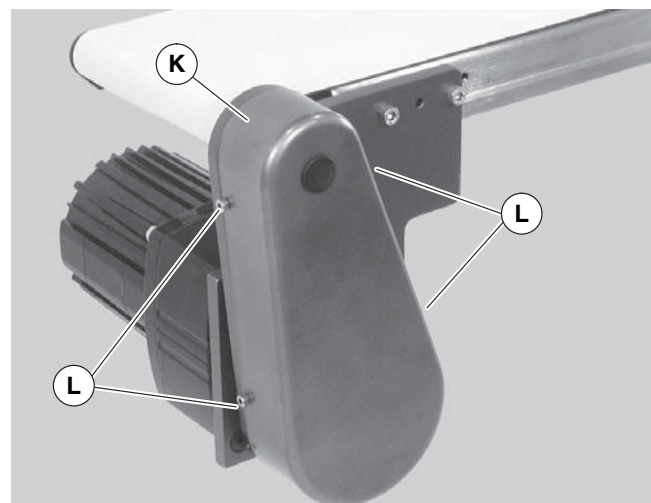

Figure 14
9. Install cover (Figure 14, item K) with four (4) screws (L). Tighten to 35 in-lb (4 Nm).
1. Remove four (4) screws (Figure 14, item L) and remove cover (K).
4. Install cover (Figure 14, item K) with four (4) screws (L). Tighten to 35 in-lb (4 Nm).
6. Install cover (Figure 14, item K) with four (4) screws (L). Tighten to 35 in-lb (4 Nm).
4. Remove four (4) screws (Figure 14, item L) and remove cover (K).